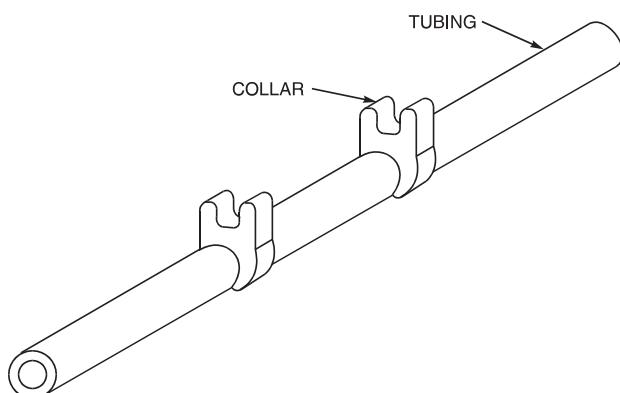

FIGURE 6 MICROBORE TUBING SET
3. Select tubing and place in Cartridge (see Figure 7B). If using a Microbore Tubing Set (see Figure 6), place the Collar up against the Tubing Retainer (see Figure 7C) on both sides of the Cartridge.
\*Use only specially designed MICROBORE TUBING SETS with Cartridges (Figure 6).